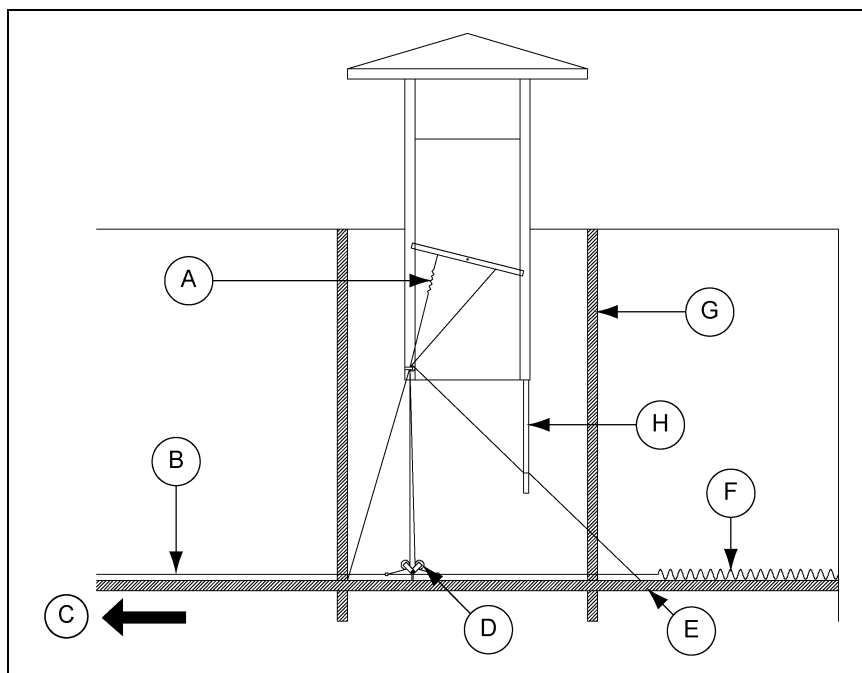

Figure 2J
1. After installing the linear actuator and master cable, put the linear actuator (C) in the closed position.
2. If building does not have a ceiling, attach 1-7/8" pulleys (D) to a horizontal truss member **directly below** the pulley assembly in the chamber using eye screws provided. If the truss has a vertical member directly in the center, the horizontal truss member can be connected to the bottom of the truss with a hole in the bottom cord (G) of the truss for the master cable/rod (B). (See Figure 2J.)
3. Pull on the cable assembly with the chain and spring (A) until the damper hits the stops in the closed position. The stops may need to be rotate to be in the proper position for this to happen.